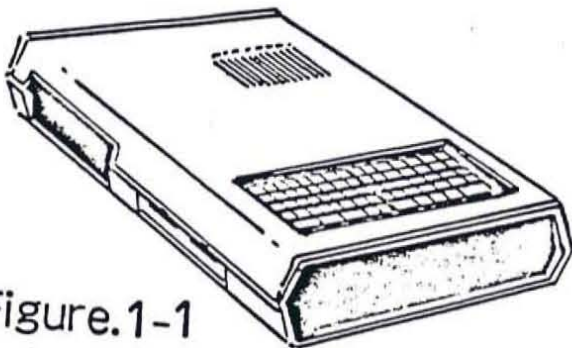

Figure.1-1
- . MPF-II Microcomputer (Fig.1-1)